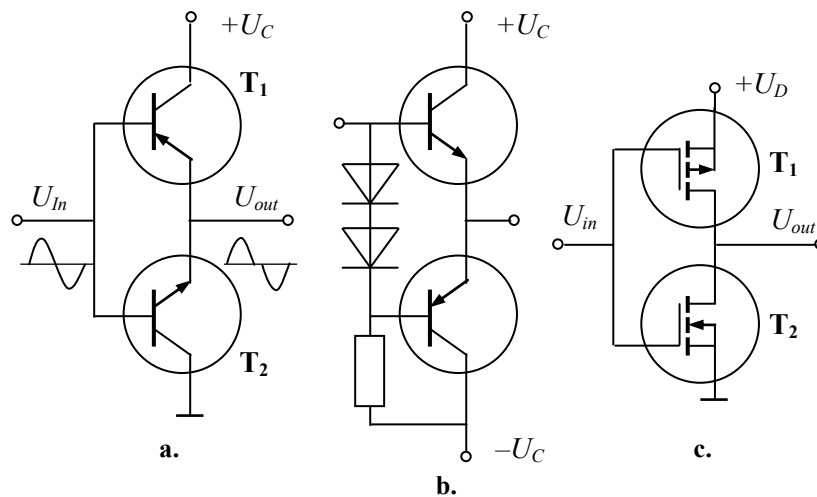

Fig. 2.53
**Push-pull amplifiers.** When a transistor is biased for the class B mode of operation, it clips off half a cycle of the input signal. To reduce distortion, two transistors are used in *push-pull* arrangement that is the pair of identical transistors connected so that the signal can be introduced across. Fig. 2.53,a shows a way to connect a class B transistors by linking an *nnp* emitter follower to *pnnp* emitter follower. The load is connected to the emitters of the transistors, which operate as repeaters.
To avoid distortion, diodes are used, which provide the class AB operation in the balanced supplied circuit, as shown in Fig. 2.53,b.
Connecting the  $p$ -channel and  $n$ -channel MOSFETs forms the basic bilateral switch shown in Fig. 2.53,c. This combination reduces the forward resistance, improves linearity, and also produces a resistance, which varies much less with the input voltage. The circuit built on the  $p$ -channel ( $T_1$ ) and  $n$ -channel ( $T_2$ ) MOSFETs is analogous to the class B push-pull bipolar amplifier. When one device is on, the other is off, and vice versa. Push-pull amplifiers are popular in the output stages of the multistage amplifiers.